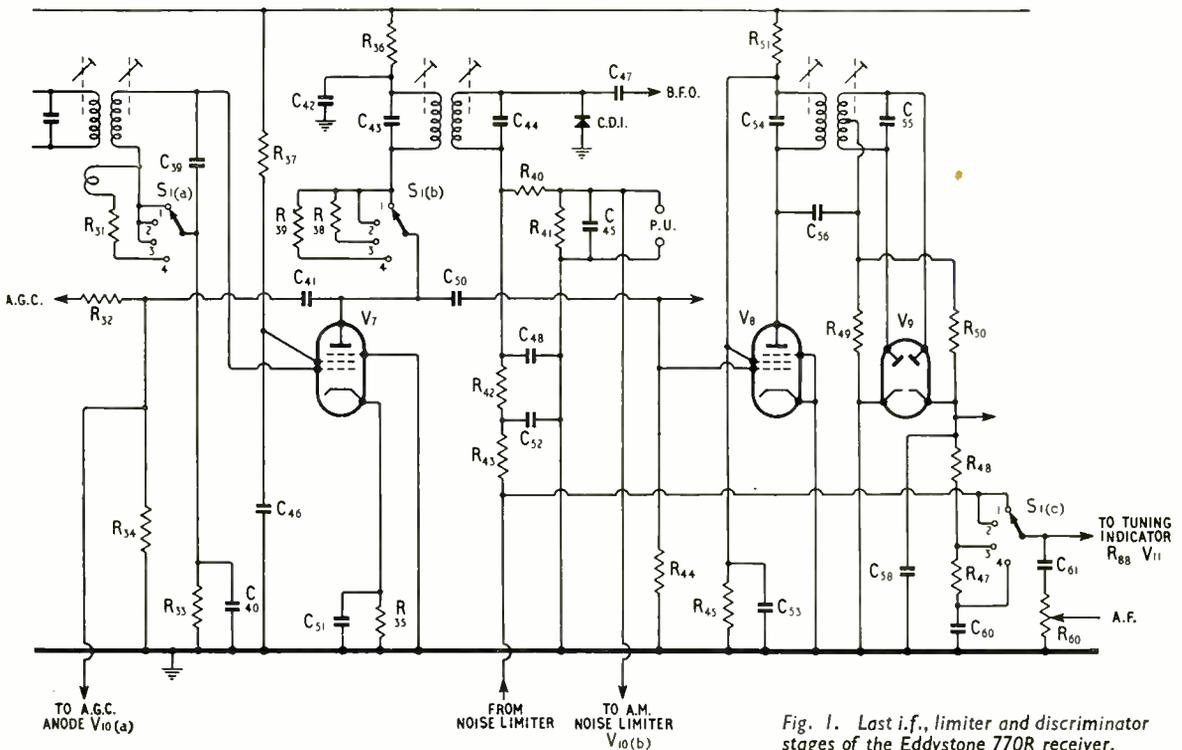

Fig. 1. Last i.f., limiter and discriminator stages of the Eddystone 770R receiver.
width for f.m. reception. For f.m. there is in addition a limiter and a Foster-Seeley discriminator. For a.m. reception there are no fewer than 10 tuned circuits and a crystal diode detector. Some interesting features (see Fig. 1) can be found in that part of the circuit, which includes the last i.f. stage V7 limiter V8 and discriminator V9. The switches S_{1a} to S_{1c} are part of a larger switching system, which might be called the "services switch," as it changes over from a.m. to f.m., adjusts bandwidth to suit each type of service and in the "CW" position switches on a BFO. S_{1a} and S_{1b} are for bandwidth adjustment of the i.f. amplifier at this point, the markings on S_{1a} indicating the four positions of the switching system; (1) CW, (2) AM, (3) NFM and (4) FM. NFM is narrow-band f.m. and is used for certain types of transmission for which the frequency deviation need not exceed ± 15 kc/s compared to the ± 75 kc/s of wide-band f.m.